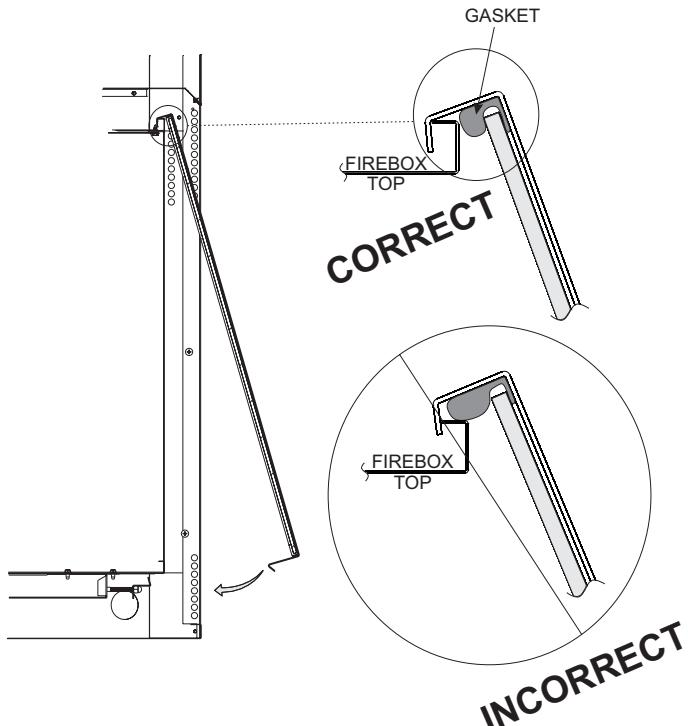

Figure 78
7. Reinstall glass front by hanging the top of the frame on top of the firebox, making sure the gasket at the top is positioned in front of the firebox flange and not on top **See Figure 78**.
1. When installing the glass door, make sure that the door top flange is hooked over the firebox top flange as illustrated in the "Correct" view in Figure 78.
Important: Do not allow the gasket across the top of the door to roll up on top of the firebox flange as shown in "Incorrect" view in Figure 78.